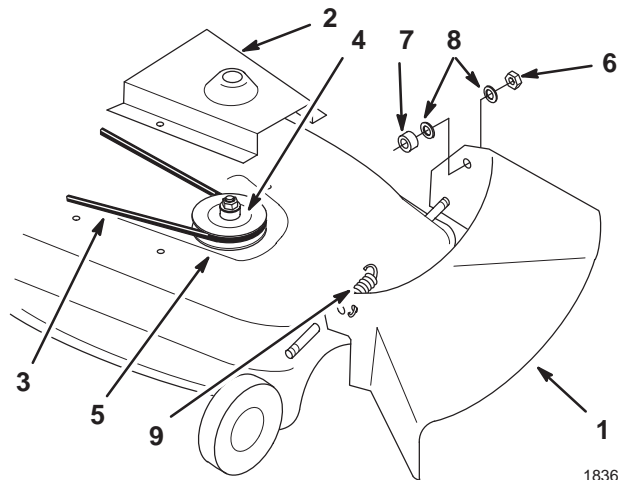

Figure 3
1. Remove the grass deflector from the mower (Fig. 3).
2. Remove the belt cover from the right side (Fig. 3).